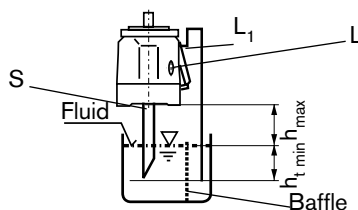

Fig. 2
b) If the min. fluid level is below the pump mounting face: pipe ports " L_1 " and "S" acc. to fig. 2 "L" plugged. (see also limit of conditions)
Above the reservoir as in fig. 2. Before installation fill pump housing, keeping it in a horizontal position.